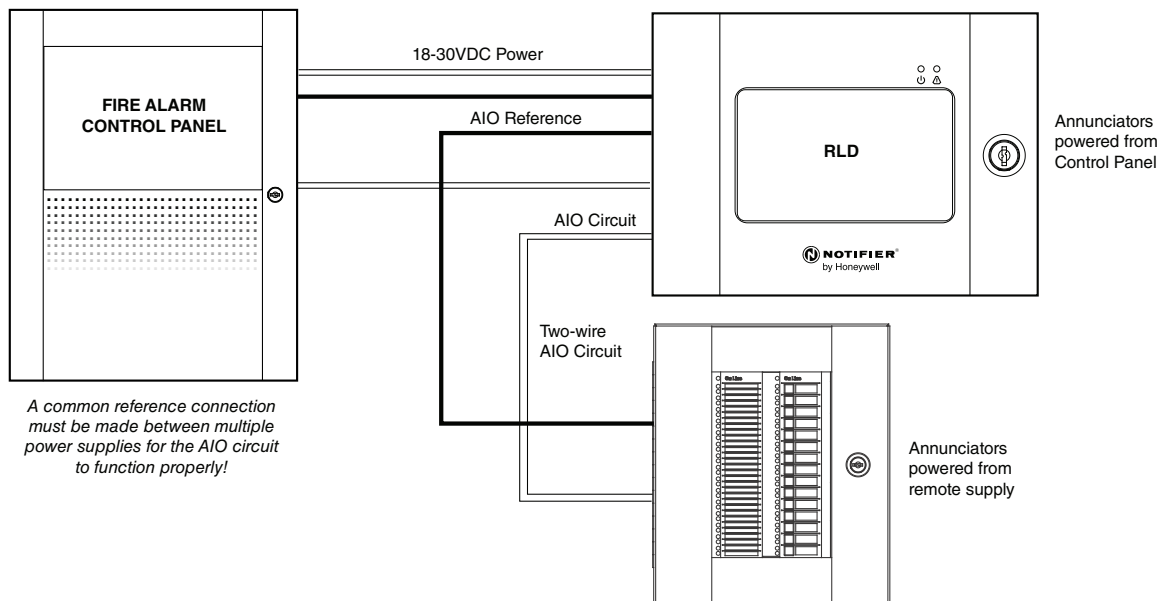

Figure 2.7 Using Multiple Power Supplies with the AIO Circuit
- If annunciators are to be mounted in a separate cabinet or powered by a remote power supply, see Figure 2.7, "Using Multiple Power Supplies with the AIO Circuit".